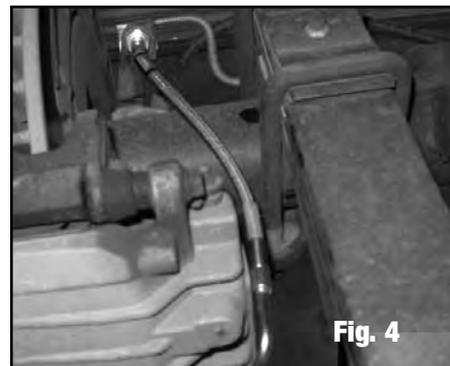

Fig. 4
6. Install Russell rear center hose using original mounting and routing. For models with rear disc brakes, install Russell left/right outer hoses, routing behind caliper. Orient banjo so that hose runs next to, but does not contact, caliper **(See Figure 4)**. Attach rear fitting to factory bracket with factory clip.